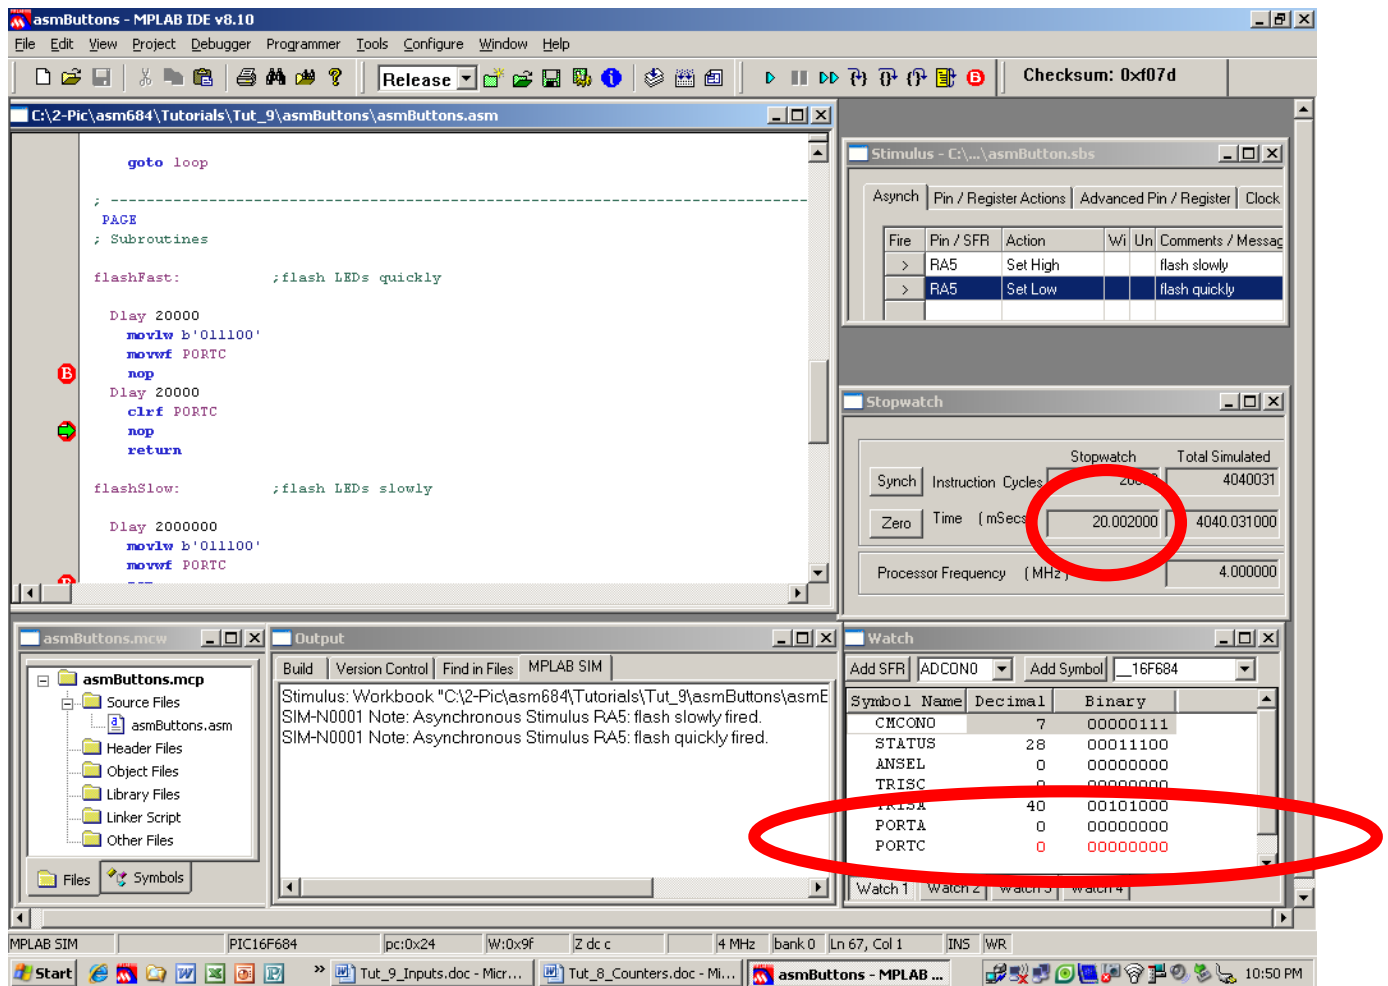

Fig 9.8
11. Simulate LED flashing slowly (part 2) (Fig 9.8):